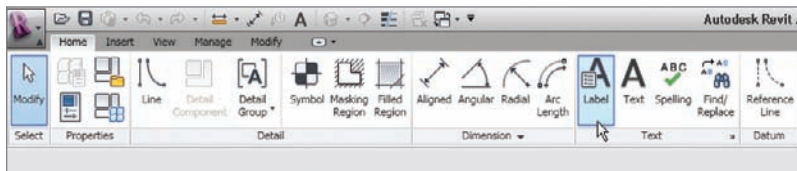

FIGURE 11.78 The Label button on the Home tab
1. In the Text panel on the Home tab, click the Label button, as shown in Figure 11.78.